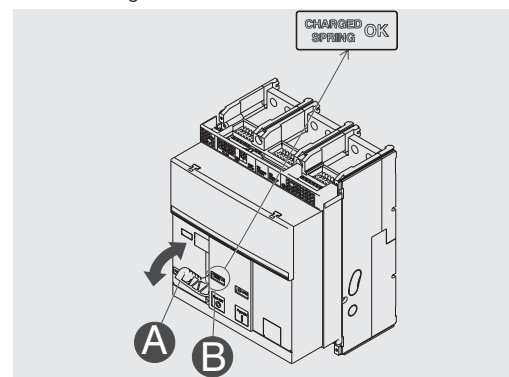

Figure 42
2. Charging the springs - Pull the lever [A] downwards several times until the springs charged signalling device [B] is "yellow - CHARGED SPRING" as indicated in Figure 42.